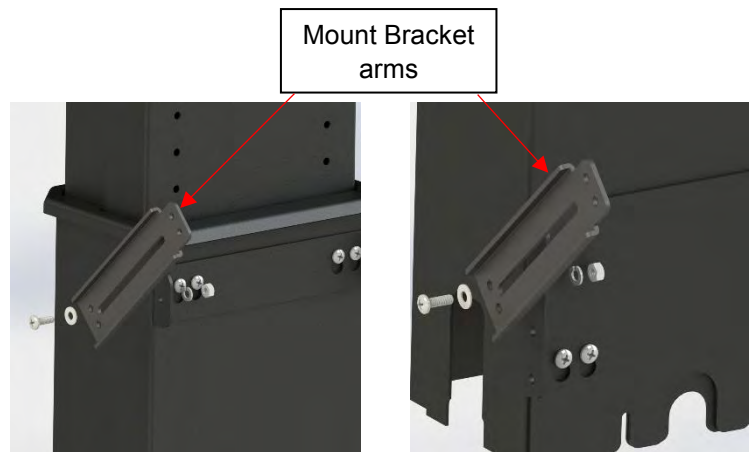
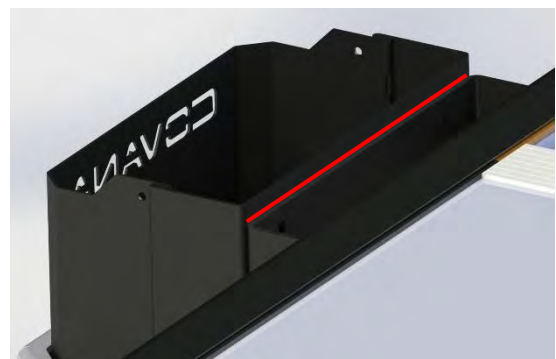

Figure 86
Figure 87
- 2) Install the top and mount bracket arms on one of the sleeves (Figure 86). Gently place the sleeve on the ground so it's in contact at the top with the post mount bracket (Figure 87). Make sure it is straight. With the sleeve and its arms, choose the position of the tub mount bracket. Put the top tub mount bracket 1/4 in. from the acrylic of the swim spa. Position the bottom one so the arms are as horizontal as possible.
- 3) Fasten the tub mount brackets properly and strongly to the swim spa's frame (Figure 86). If the swim spa is over 54 in. high (137 cm), install the extended tub mount bracket (Figure 87). Use the provided Phillips #10 x 3/4 in. screws for fastening.